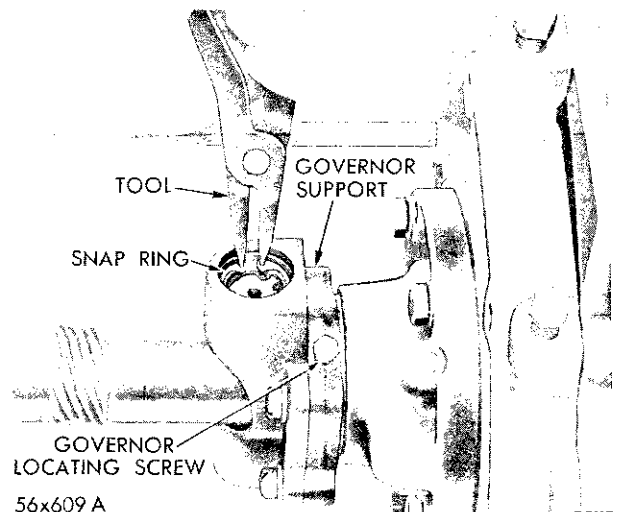

Fig. 38—Removal and Installation of Governor Weight Assembly
(3) Using pliers, Tool C-3229, remove governor snap ring (large) as shown in Figure 38 and remove governor weight assembly.
(4) Remove the governor locating screw from the governor support.
(5) Remove the oil pump housing, gear, pinion and governor assembly from output shaft. Use dye and mark the face of the pump gear in relation to pump housing, for reassembly purposes. **DO NOT SCRIBE.** Remove oil pump pinion ball.